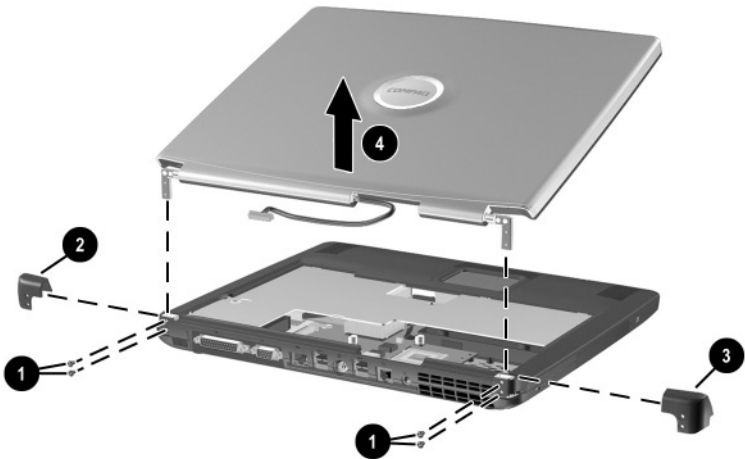

Figure 5-21. Removing the Display Assembly
6. Remove the four TM2.5 × 7.0 screws ❶ that secure the left and right hinge covers to the base enclosure (Figure 5-21).
7. Remove the left ❷ and right ❸ hinge covers by sliding them toward the outside of the notebook.